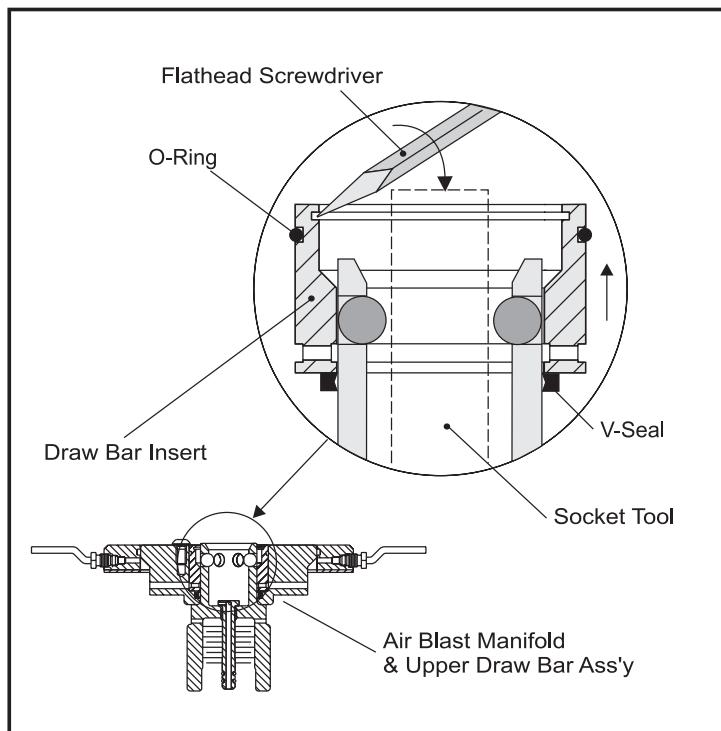

Figure 3.12-4
4. Insert a socket extension tool into the pull-stud area of the drawbar assembly. (For steps 4 through 9, refer to Figure 3.12-4)